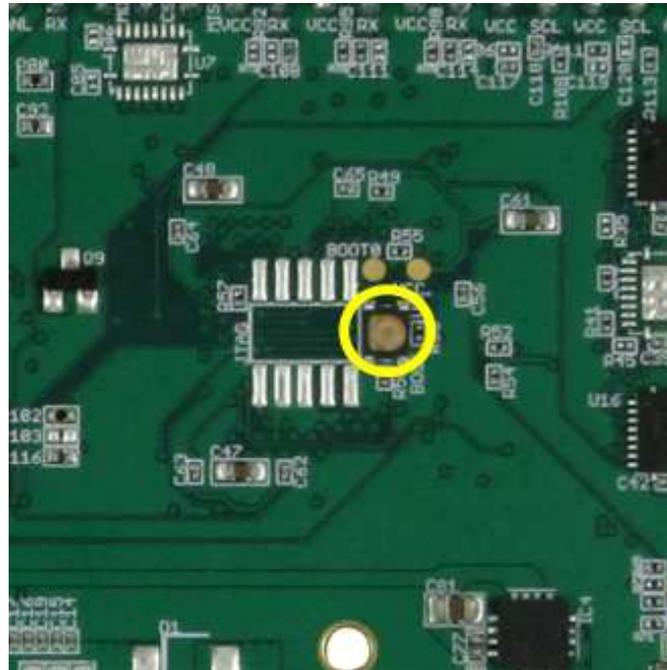

Figure 3: Location of **BOOT0**
3. locate the **BOOT0** button on the back of the AeroCore 2, circled in yellow in Fig 3